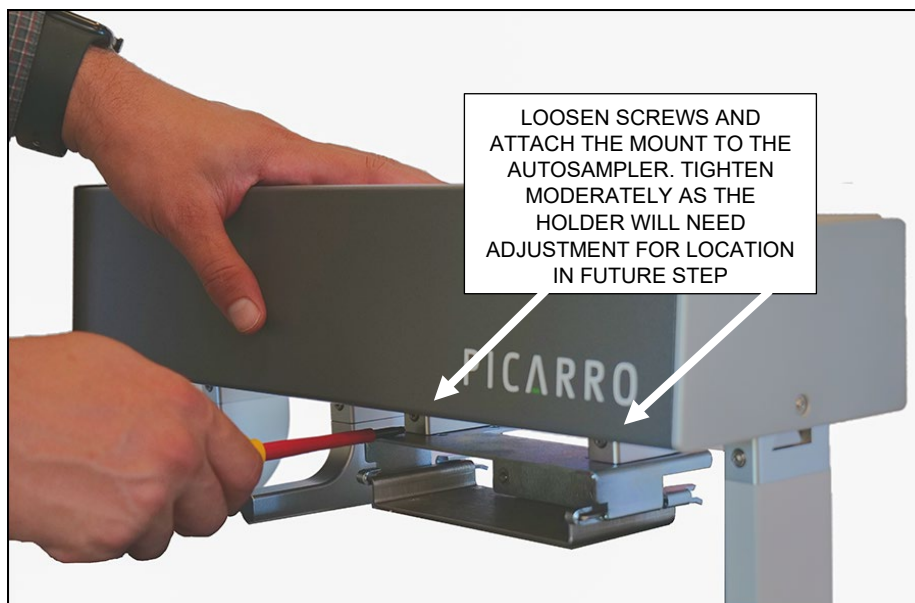
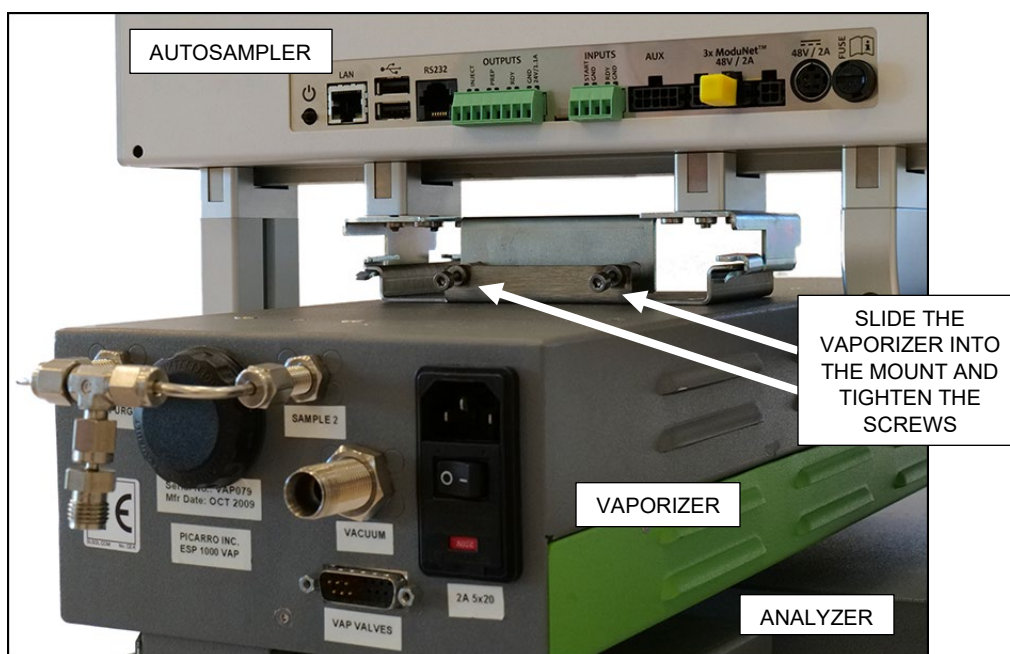

Figure 15: Attaching Mount to Autosampler
Figure 16: Mounting Vaporizer
1. First, remove the mount attached to the vaporizer for shipment, then attach the mount to the autosampler the same way the legs connect to the XYZ arms in the previous steps (Figure 15, Figure 16).
2. Slide the vaporizer into the mount and tighten the two screws, as shown in Figure 16.